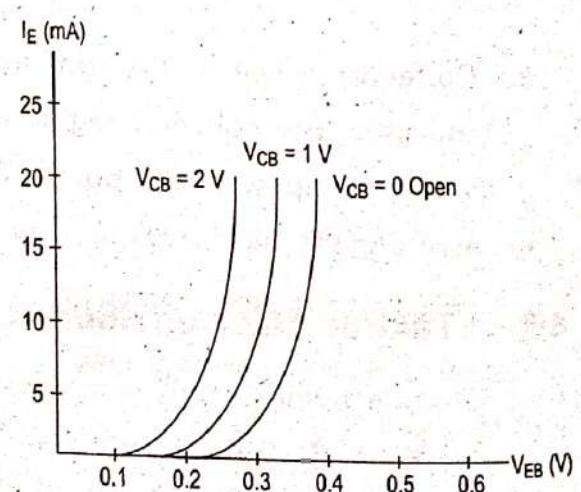

FIGURE 4.13 : Input Characteristics of PNP Transistor
**Input Characteristics :** The curves of Fig. 4.13 constitute input characteristics of pnp transistor in CB configuration. These are obtained by plotting Equ. (1) i.e., plotting the emitter base voltage  $V_{EB}$  voltage against the emitter current  $I_E$ , with collector to base voltage  $V_{CB}$  as the parameter.
The input characteristics of Fig. 4.13 for  $V_{CB}$  opens nothing but the forward characteristics of the emitter to base diode. Fig. 4.13 also shows that for a given level of input voltage, more input current flows when higher level of CB voltage are employed. This because the reverse CB voltage cause the depletion region to penetrate deeper into the base of the transistor, thus shortening the distance and the resistance between the EB and CB depletion regions.